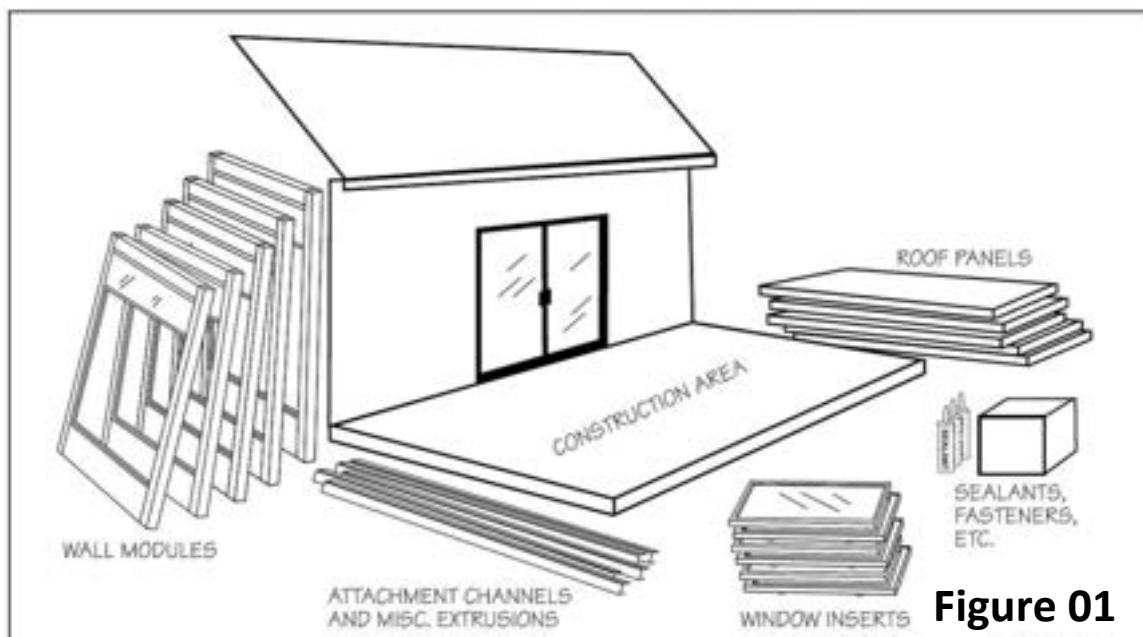

Figure 01
10. **Figure 01** is an example of a job site in which the materials have been separated, organized and are ready for installation.